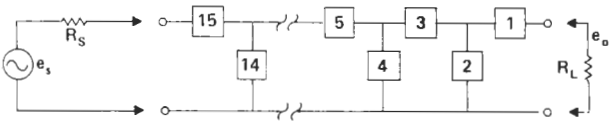

Figure 1
A general network analysis program has been developed for the HP programmable calculator with its extended memory and plotter equipments. Purpose: This program makes it possible to analyze a ladder-like network. In its present form, the performance of a network of up to fifteen (15) series and shunt branches can be calculated. Each branch can contain up to three elements, making a total of forty-five elements. The HP extended memory is large enough to increase this capability in terms of network size, if required for some special reason. As can be seen in the memory map layout, the storage block of registers 165 through 186 could be moved to registers 123 through 144. This would allow for ten (10) additional branches by enlarging the continuous storage space required for element values and circuit types. This would of course require modification of the program instructions which reference these relocated memory registers. Networks with twenty-five branches or seventy-five R, L, C elements could then be analyzed. Figure 1 depicts the general form of the ladder type network.
The elements in each branch may be series, parallel or series-parallel combinations of R, L and C. The acceptable branch element configurations and their associated entry codes are shown in Figure 2. The circuit element values are entered for each branch with an accompanying circuit type number from one through five. The user should utilize the five circuit branch types shown in Figure 2 in such a way that the network to be analyzed will conform to the general network configuration that is shown in Figure 1. If the network to be analyzed does not contain a corresponding Block 1 branch (reference Figure 1) of the general form, the user should simulate Block 1 by entering a Circuit Type 1 with a resistance value of zero. While it is required to make the first branch entry a series branch (Block 1 of general form) the Nth entry may be either a series or a shunt branch. Therefore the total number of branches can be either odd or even. For a network which contains more complex branch configurations, it may be possible to utilize dummy branches to effectively combine adjacent shunt or series branches. Series branches can be eliminated by being entered as short circuits (Circuit type 1 with R equal to zero). Shunt branches entered as circuit type 1 with a very large value of resistance will nearly have the effect of combining two series branches directly. All dummy branch